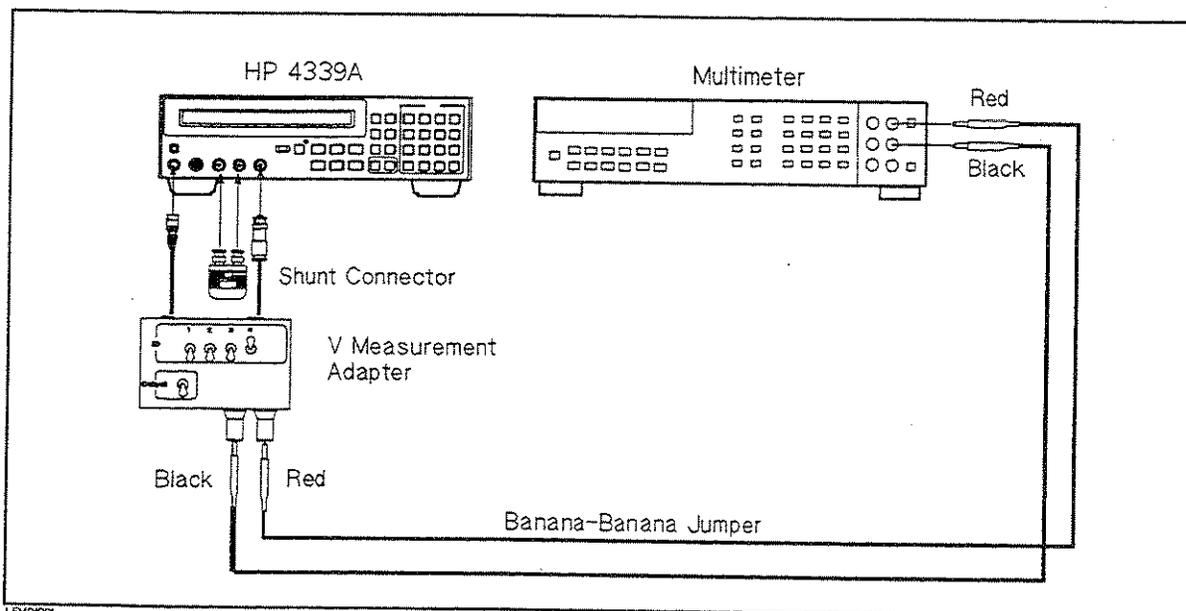

Figure 9-1. Source Voltage Accuracy Test Setup
2. Set up the equipment as shown in Figure 9-1.